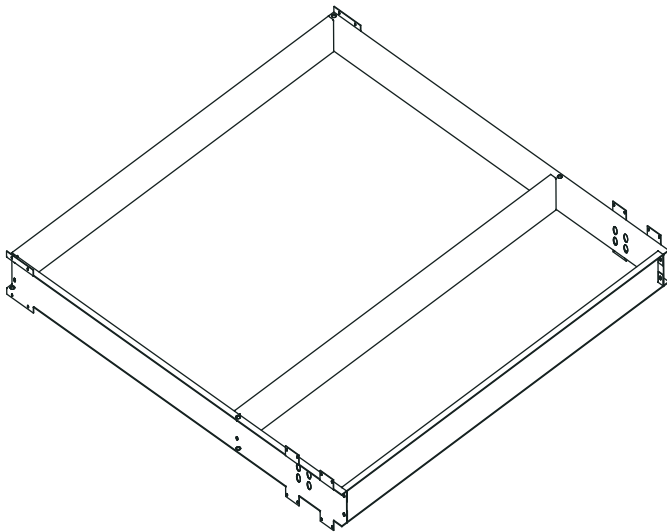
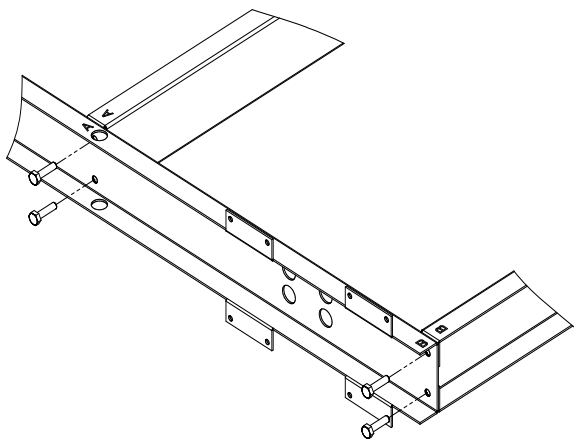

Fig. 7 — Base Rails
Fig. 8 — Letter Coding on Base Rail Parts
2. Assemble the base rails (provided with mixing box. (See Fig. 7.) All hardware required for assembly is included and the base rails are letter coded for ease of assembly. (See Fig. 8.)